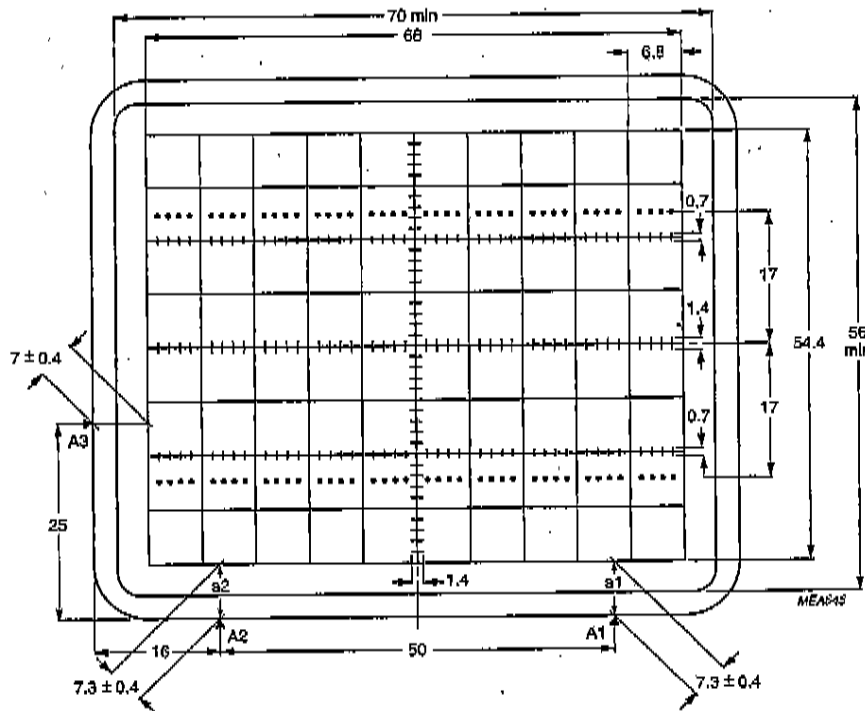

Fig.4 Front view of the tube with internal graticule, type 125.
Internal graticule	type 125 (see Fig.4)
The tube can be mounted in any position. It must not be supported by the socket and not by the base region alone. The reference points (A1, A2 and A3) on adjoining edges of the faceplate (see Fig.4) enable the tube to be positioned accurately in the front panel, for optimum alignment of the internal graticule with respect to the bezel.
The internal graticule is aligned with the faceplate by using the faceplate reference points, see Fig.4 and note 1.
1. Because the frit seal is visible through the faceplate, and is not necessarily aligned with the internal graticule, application of an external passe-partout with an open area of max. 70 mm x 56 mm is recommended. The internal graticule is aligned with the faceplate by using the faceplate reference points (see Fig.4).